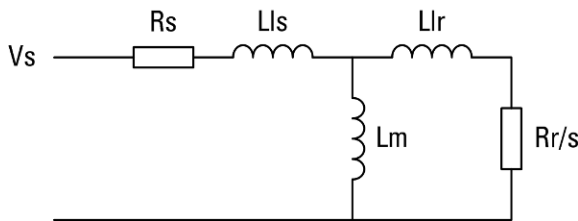

Figure 20: AC motor single-phase equivalent circuit
- A value for each of the electrical parameters of the induction motor as shown in Figure 20.